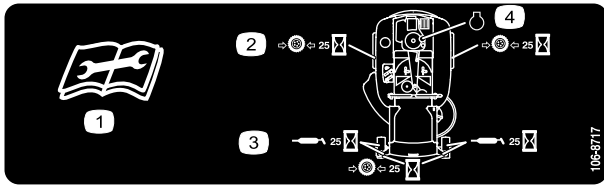

Figure 22
3. Clean the grease fittings shown in Figure 22 with a rag. Make sure to scrape any paint off of the front of the fitting(s).